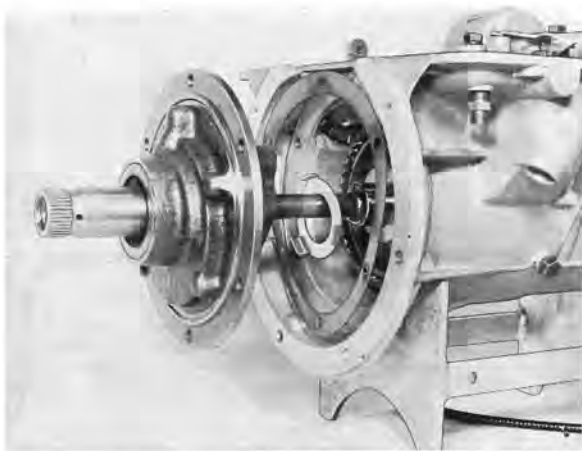

Fig. 4-116. Installation sequence, front pump assembly thrust washer and gasket
20. Stick on the thrust washer with vaseline and then fit the pump with a new gasket on the transmission case, see Fig. 4-116. Re-check the end float in accordance with point 21, page 34.